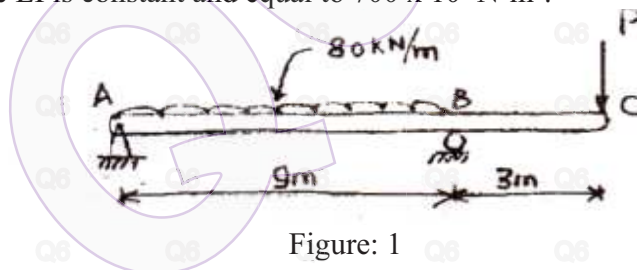

Figure: 1
2. Draw the shear force and bending moment diagram for the beam shown below figure 1. Take EI is constant and equal to $700 \times 10^5 \text{ N-m}^2$. [15]